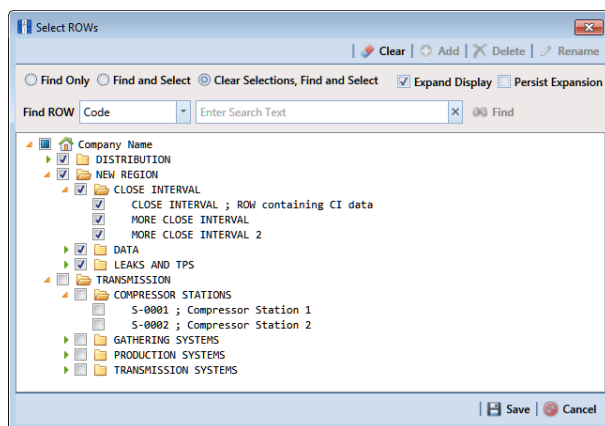

Figure 13-41. Select ROWs
- 1 Select one or more pipeline segments in the *Select ROWs* window (Figure 13-41). Click  **Save** to close the window.